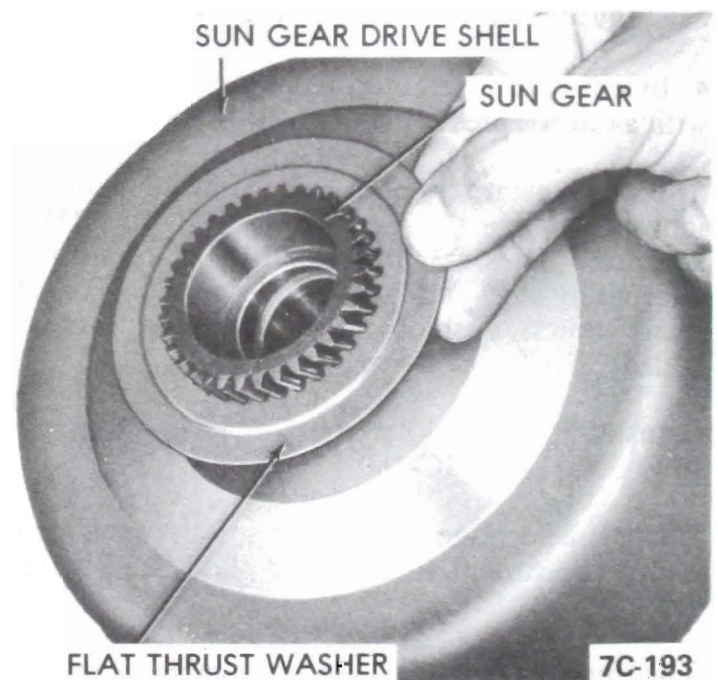

Figure 7C-193
3. Remove front retaining ring from sun gear. See Figure 7C-194.